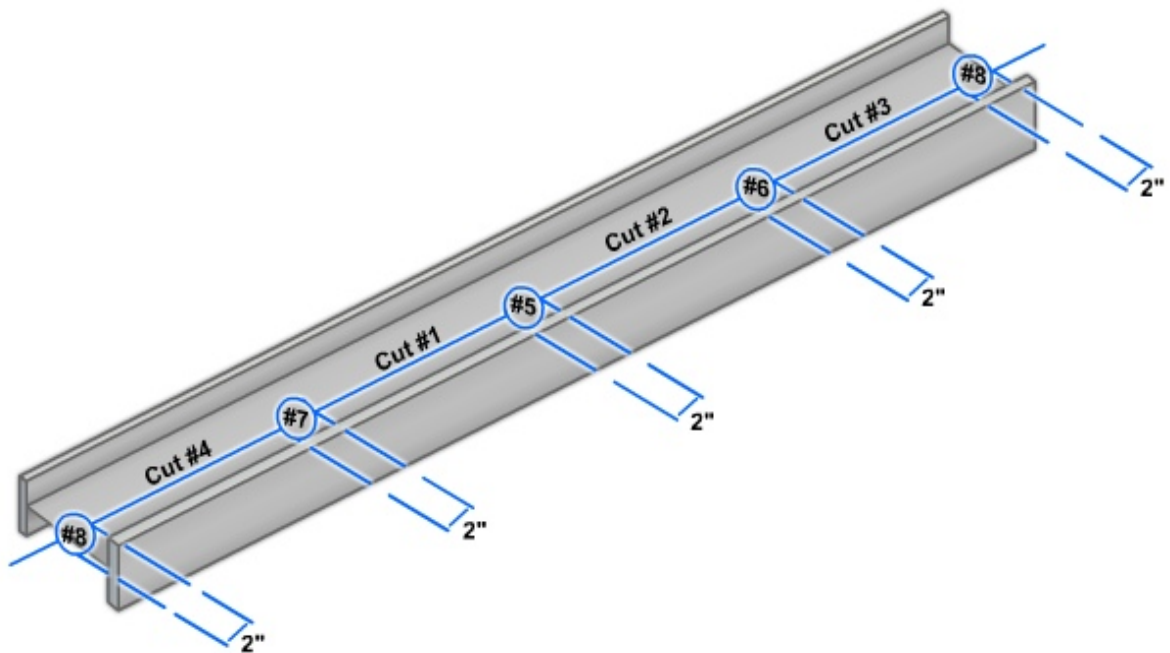

Figure 2-14 — Cutting order for splitting a beam.
2. Make splitting cuts about 2 feet (60 cm) long, leaving 2 inches (5 cm) of undisturbed metal between all cuts and at the end of the beam (*Figure 2-14*).
5. Starting at the center of the beam and working toward the ends, cut through the metal between the cuts following the order shown in *Figure 2-14*.